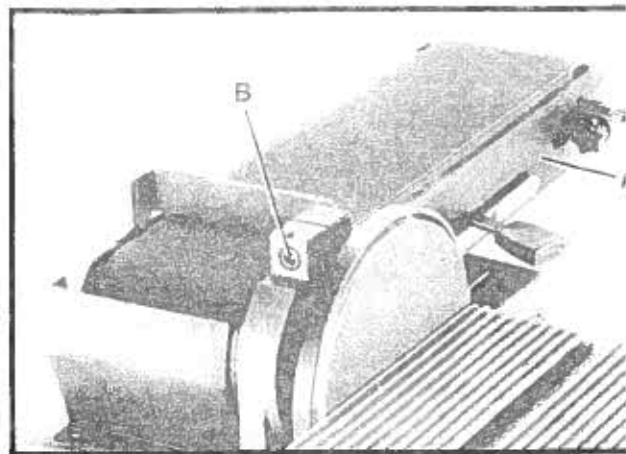
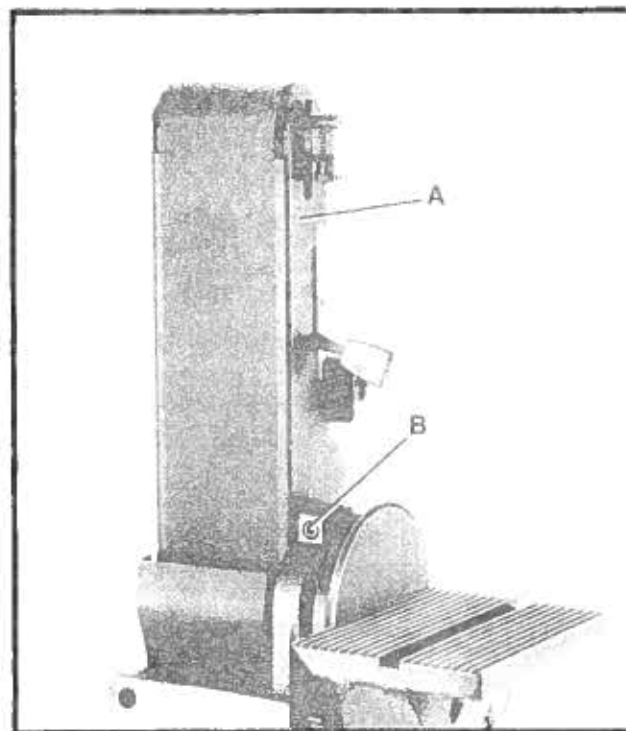

Fig. 25
Fig. 26
1. The sanding arm (A) can be used in the horizontal position, as shown in Fig. 25; vertical position, as shown in Fig. 26; or any angle in between by loosening screw (B), positioning the arm (A) to the desired angle and tightening screw (B).